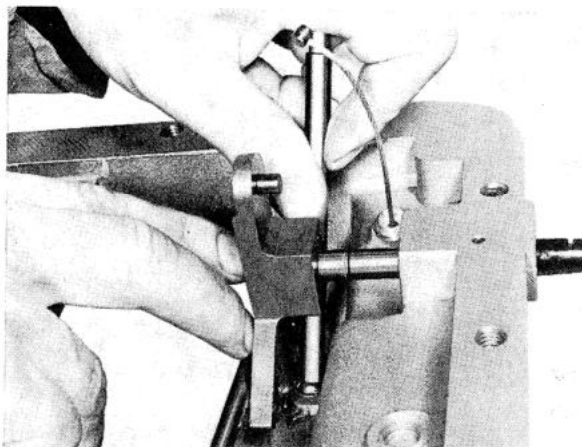
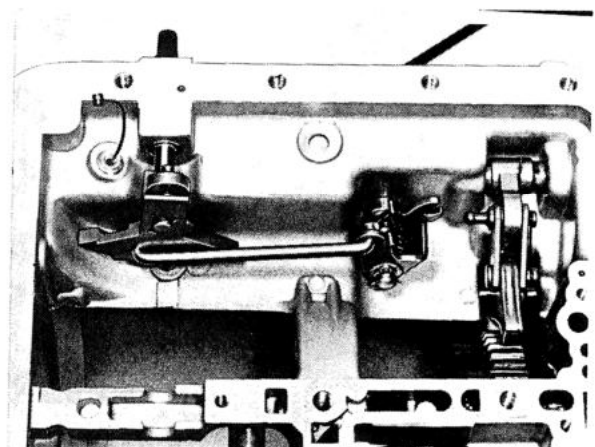

Fig. 4-94. Locating manual valve lever on detent ball spring
Fig. 4-95. Parking pawl and linkage installed
2. Assemble the shaft, parking pawl and levers in the reverse order to dismantling. Make sure that the springs for the levers are correctly fitted, see Fig. 4-95. Fitting the detent ball is facilitated by pressing down the ball using a short length of tubing as shown in Fig. 4-94.